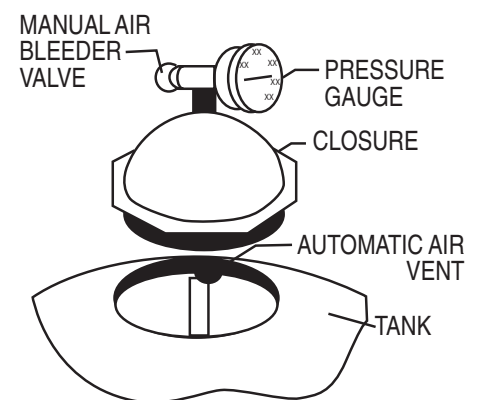

Figure 1.
- Pivot the diffuser out of the center of the tank on the TR40, 50, 60, TR60 ClearPro, 100 & 140 by rotating the diffuser assembly counter clockwise. (**NOTE:** The multi-diffuser assembly should not be moved on models TR100C, TR100C-3 and TR140C, TR140C-3. After installing the filter media as described below, check to make sure the tops on the diffusers are parallel to the top of the sand bed.) Fill the tank about half full of water. Pour pea gravel first (if used) and then the sand into the top of the filter at a slow rate so that the impact of the filter media does not damage the laterals. See Table 2 for the proper amounts of sand and gravel. Fill filter to the proper level to maintain freeboard, as shown in Table 2. Pivot the diffuser assembly back to its vertical position if it was moved. Be certain the automatic air vent is protruding into the top of the closure as indicated below in Figure 1. Ensure that the automatic air vent is in the center of the filter closure. Wash away all sand around the threaded opening at the top of the tank.